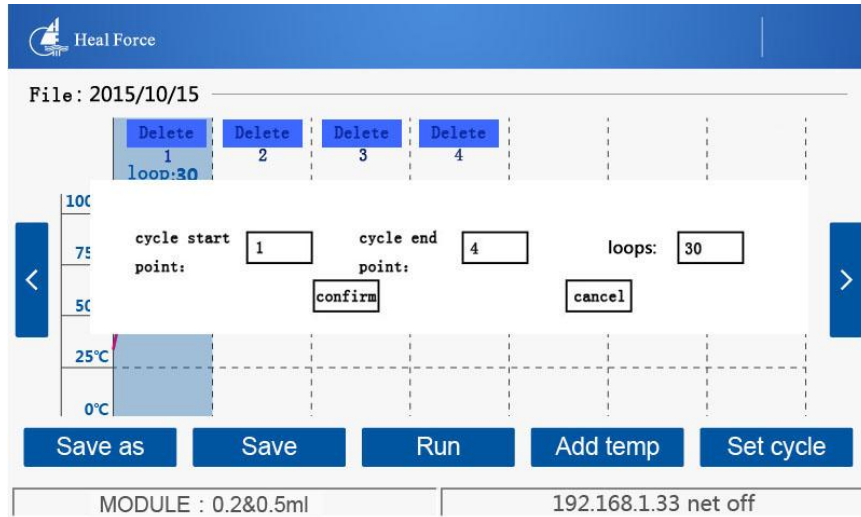

Figure 4-7
Step 3: Log into program edit interface, select “set cycle” button to add cycle, it pops out the menu (figure 4-7), input the cycle start point value (displayed below the delete button) “1”, cycle end point value “4”, times: “30” .